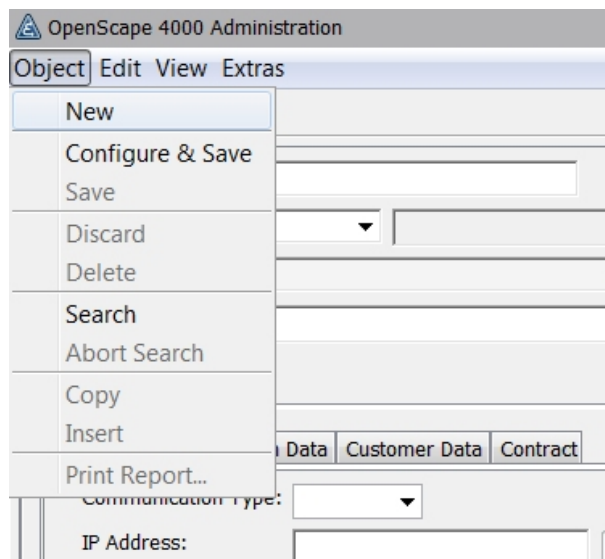

Figure 54: Object Menu in OpenScape 4000 Administration Screen
- 11) Click the Contract subtab (see Figure 54)